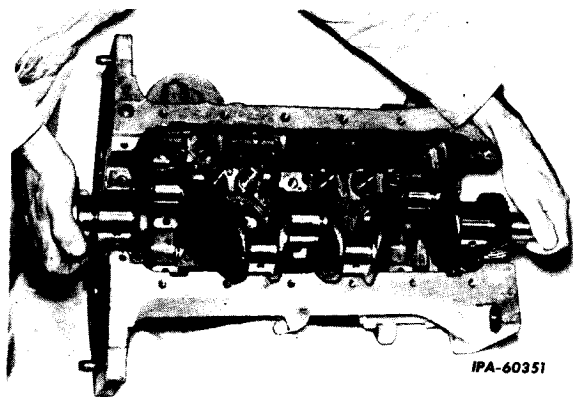

Fig. 2 - Removing the Crankshaft (135 Series).
10. Lift the crankshaft out of the crankcase (Fig. 2).